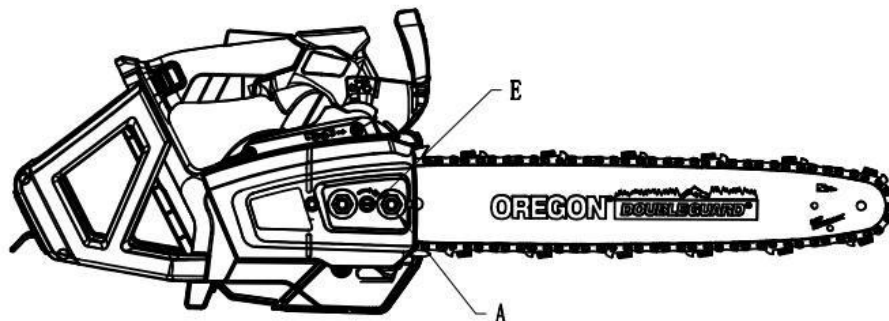

Fig 9
6. Hold the guide bar nose up and turn the adjuster (E) clockwise until the chain fits snugly against the underside of the bar. Then tighten the sprocket cover nut (A) to secure the sprocket cover (Fig 9).